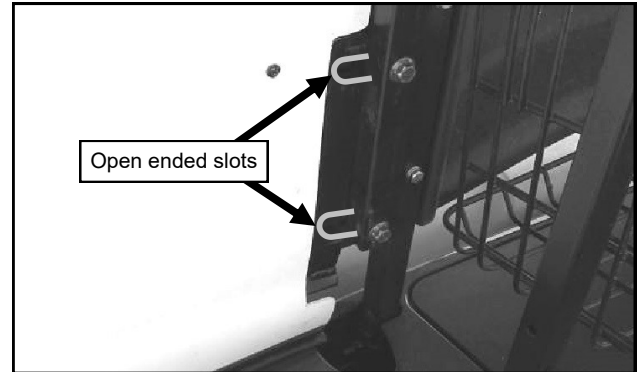

Fig. 3.3 (rear roof support - left side)
**3.3** Per figure 3.3, position the lower rear portion of the side frame assembly so the open ended slots line up and go into the 1/4" gap behind the seat as shown.